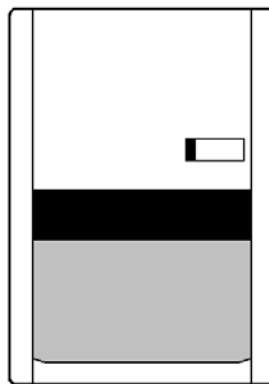

Figure 10.6 PIR Masking horizontal example
2. Place one strip of electrical tape horizontally across the top of the PIR lens (see Figure 10.6); this will cover the high beam.